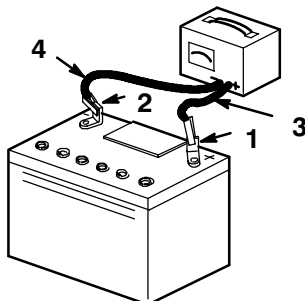

Figure 31
- When the battery is fully charged, unplug the charger from the electrical outlet, then disconnect the charger leads from the battery posts (Fig. 31).